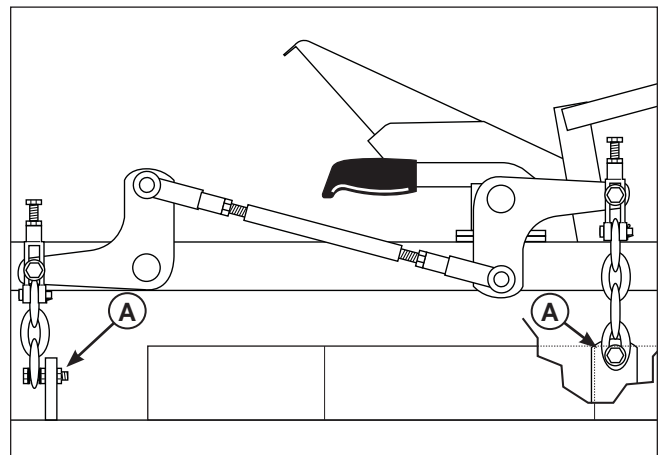

Figure 43. Hanger Chain Adjustment
4. Loosen the nuts (A, Figure 43) and allow the front of the deck to rest on the 2 x 4's. Slide the chains down in the slots until the chains are tight and tighten the nuts. See Figure 43.
5. Loosen the nuts (A) and allow the rear of the deck to rest on the 2 x 4's. Slide the chains down in the slots until the chains are tight and tighten the nuts. See Figure 43.